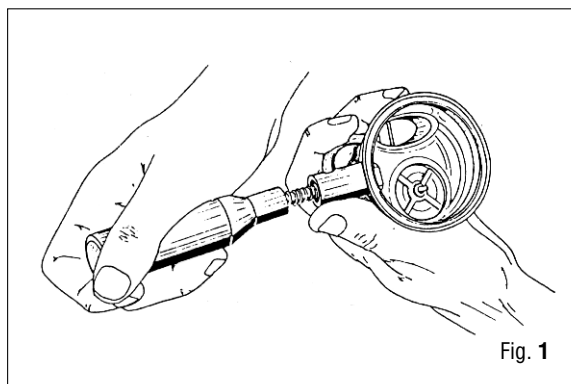

Fig. 1
1. Carefully install a new exhaust valve (40) by pulling the stem through the center hole of the exhaust valve seat until it locks in place. The valve stem should not be pulled excessively as damage to the valve may occur. Using scissors, cut approximately 7 mm (1/4 in.) off of the end of the valve stem.
2. Press poppet seat (47) into poppet body (30).
3. Place poppet body (30) onto tool (B6).
4. Place spring (31) over poppet body.
5. Insert poppet body and spring into the second stage inlet. Align the square of the poppet stem with the square hole of the case and press inward to compress the spring (Fig. 1).
TO ENSURE CORRECT POSITIONING OF THE SECOND STAGE POPPET, IT IS RECOMMENDED TO TURN THE SECOND STAGE CASE FROM LEFT TO RIGHT (FIG. 1).